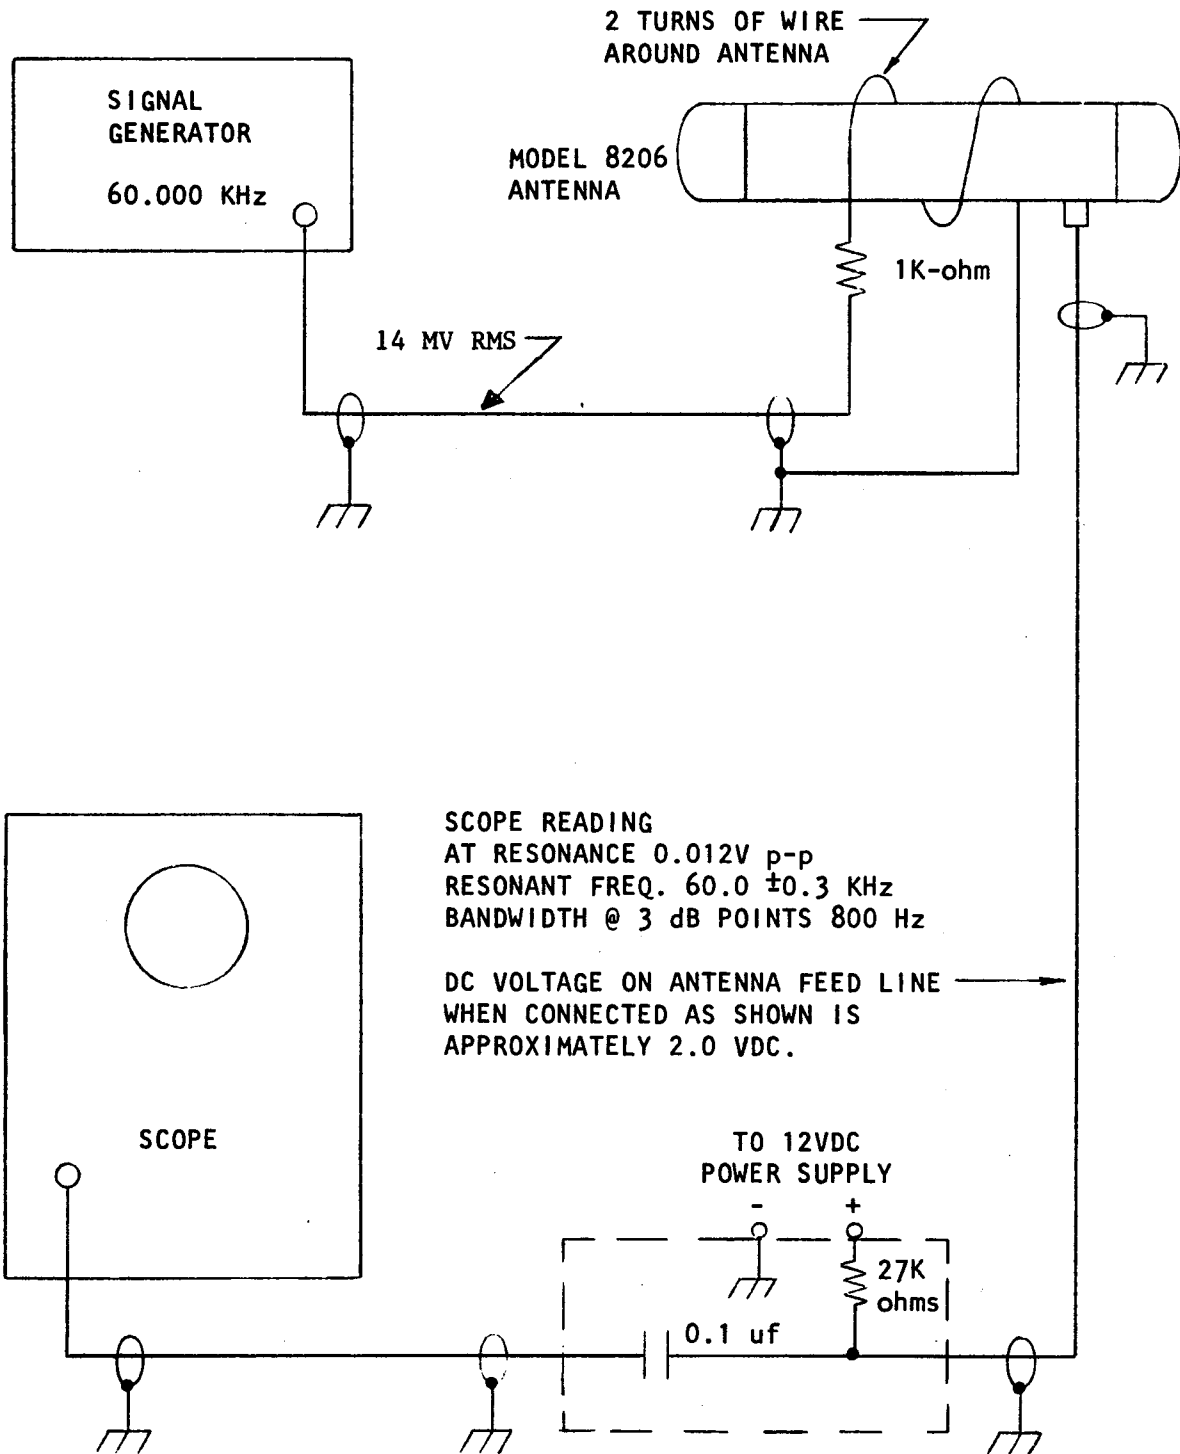

FIGURE 6-6
2. Wrap 2 turns of wire around the antenna. Connect one end of the wire to the coaxial cable shield. Connect the other side to a 1K ohm resistor. The other side of the resistor is connected to the center conductor of the cable as shown in Figure 6-6.